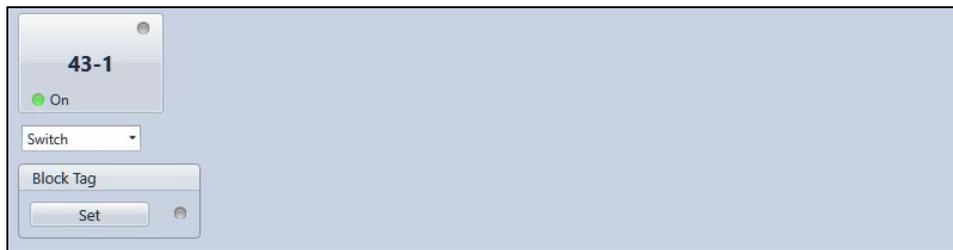

Figure 44-1. Virtual Switch Control Screen
1. Use the Metering Explorer to open the Control, Virtual Switch tree branch (Figure 44-1).
2. If Switch/Pulse mode is selected on the Virtual Control Switch (43) settings screen in BESTCOMSP*lus*, use the drop-down box to select either Switch or Pulse.
Tagging of virtual control switches can be accomplished through the touchscreen, through BESTCOMSP*lus*, and various communication protocols such as Modbus® and DNP. Use the Metering Explorer in BESTCOMSP*lus* to open the Control, Virtual Switch tree branch and click on the Set button. If tagging is successful, the indicator to the right of the Set button will turn green. A tagged switch is indicated by an amber indicator in the upper right corner of the element button. Click on the Reset button to clear a tag. Refer to Figure 44-1.